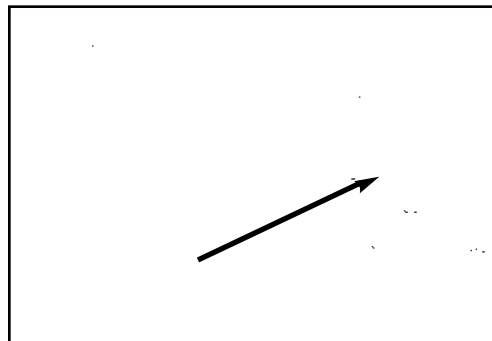

Figure 24
- Rotate “Sure-Lock” lock handle forward to fully open Sure-Lock. (See Figure 24.)